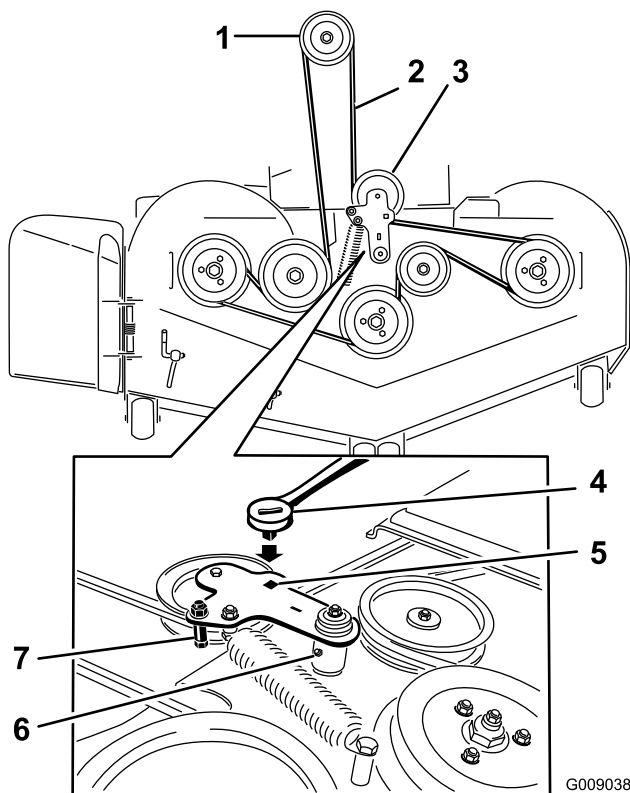

Figure 92
5. Use a ratchet in the square hole in the idler arm to remove tension on the idler spring (Figure 92).
7. Remove the belt guide on the spring-loaded idler arm (Figure 92).
9. Install the new belt around the mower pulleys and the clutch pulley under the engine (Figure 92).
10. Install the belt guide on the idler arm (Figure 92).
11. Using the ratchet in the square hole, install the idler spring (Figure 92).